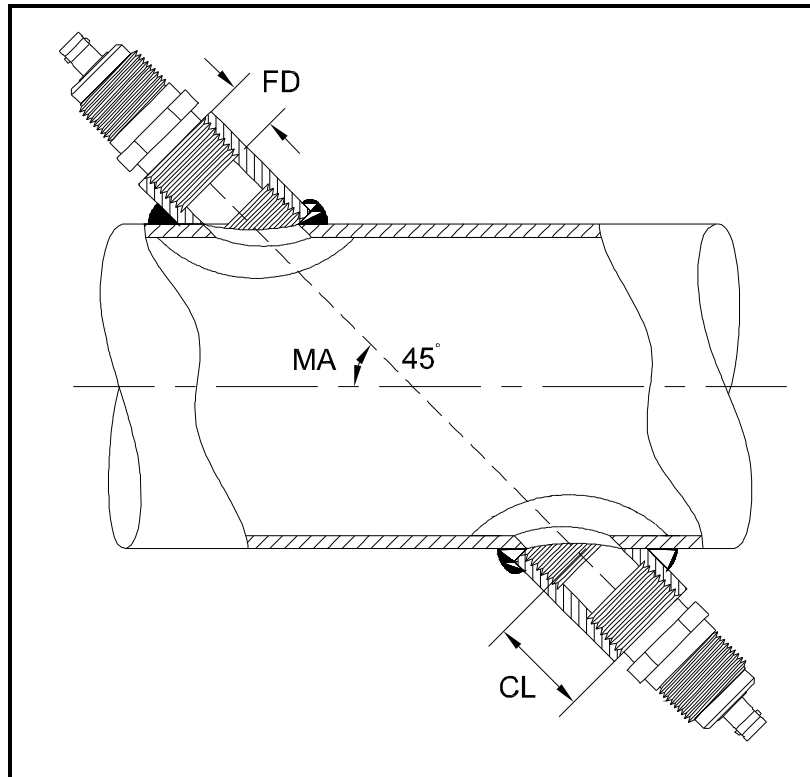

Figure 19: Determining the Pipe Coupling Length
Use Figure 19 to properly measure the coupling length. Typically, the transducer face is positioned just outside the inside diameter (ID) of the pipe, or slightly retracted inside the coupling.